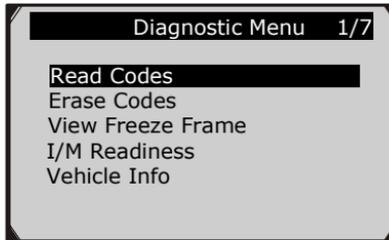

Figure 4.3
- 7) View a summary of system status (MIL status, DTC counts, Monitor status) on screen. (Figure 4.1) Wait a few seconds or press any key for **Diagnostic Menu** (Figure 4.3) to come up.
- 1) Use the **SCROLL** button to select **Erase Codes** from **Diagnostics Menu** and press the **ENTER** button. (Figure 4.3)
- 1) To view freeze frame data, use the **SCROLL** button to select **View Freeze Frame** from **Diagnostic Menu** and press the **ENTER** button. (Figure 4.3)
- 1) Use the **SCROLL** button to select **I/M Readiness** from **Diagnostic Menu** and press **ENTER** button. (Figure 4.3)
- 1) Use **SCROLL** button to select **Vehicle Info.** from the **Diagnostic Menu** and press **ENTER** button. (Figure 4.3)